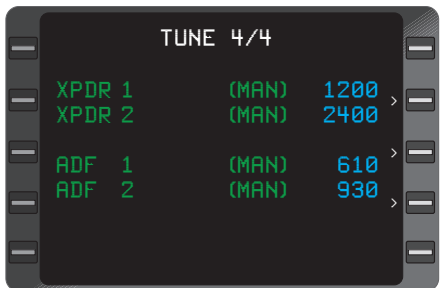

Figure 2-68
*NOTE: If the transponder reply code appears briefly after tuning but turns to dashes, the system interface does not provide a return frequency input. **(MAN)** indicates the entry was made through the control head. (Figure 2-68)*
*NOTE: If the frequency that the **ADF** is tuned to appears briefly but turns to dashes because the system interface does not provide a return frequency input. It may also be annunciated with **(MAN)**. (Figure 2-68)*